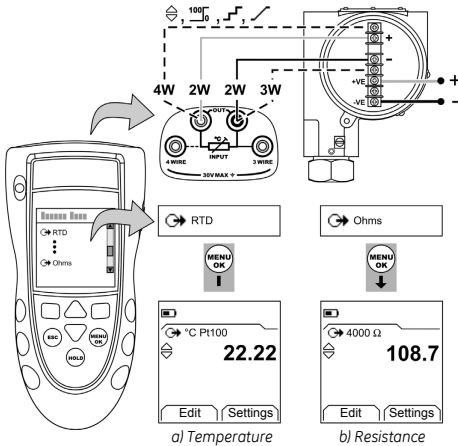

Figure 2: Example configuration - To simulate the temperature or resistance of an RTD
1. Connect the instrument (Figure 2) and, if necessary, adjust the *Set Up* (Table 1).